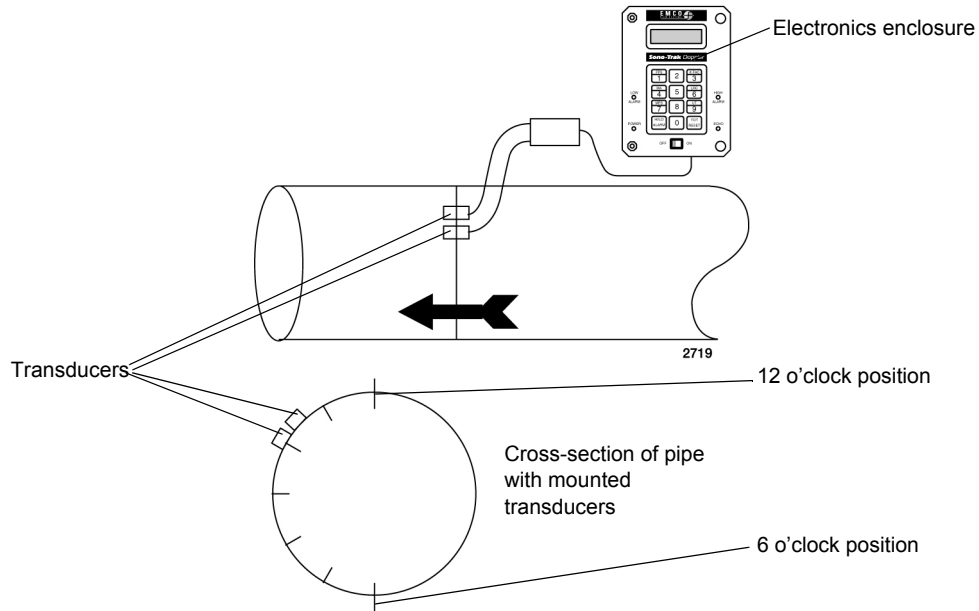
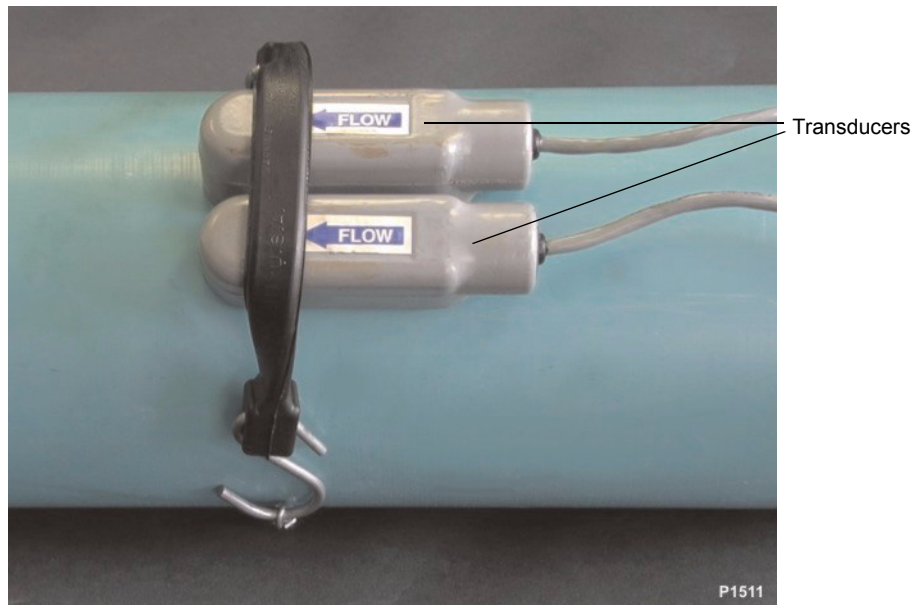

Figure 2-4. *Clamp-on transducer placement*
Figure 2-5. Clamp-on transducers secured with a bungee and chain
- Place the transducers side by side between 7 o'clock and 10 o'clock on the pipe as shown in Figure 2-4. Place the transducers flush to the pipe, facing the same direction. See Figure 2-5 for an example.
Note: Be careful with transducer placement. Air bubbles near the top of the pipe or sediment on the bottom of the pipe can hinder successful flow readings. Place the transducers as shown in Figure 2-4.
- Use the supplied chain and bungee cord to strap the transducers in place, securing them tightly to the pipe. Figure 2-5 provides an example of two properly mounted clamp-on transducers.